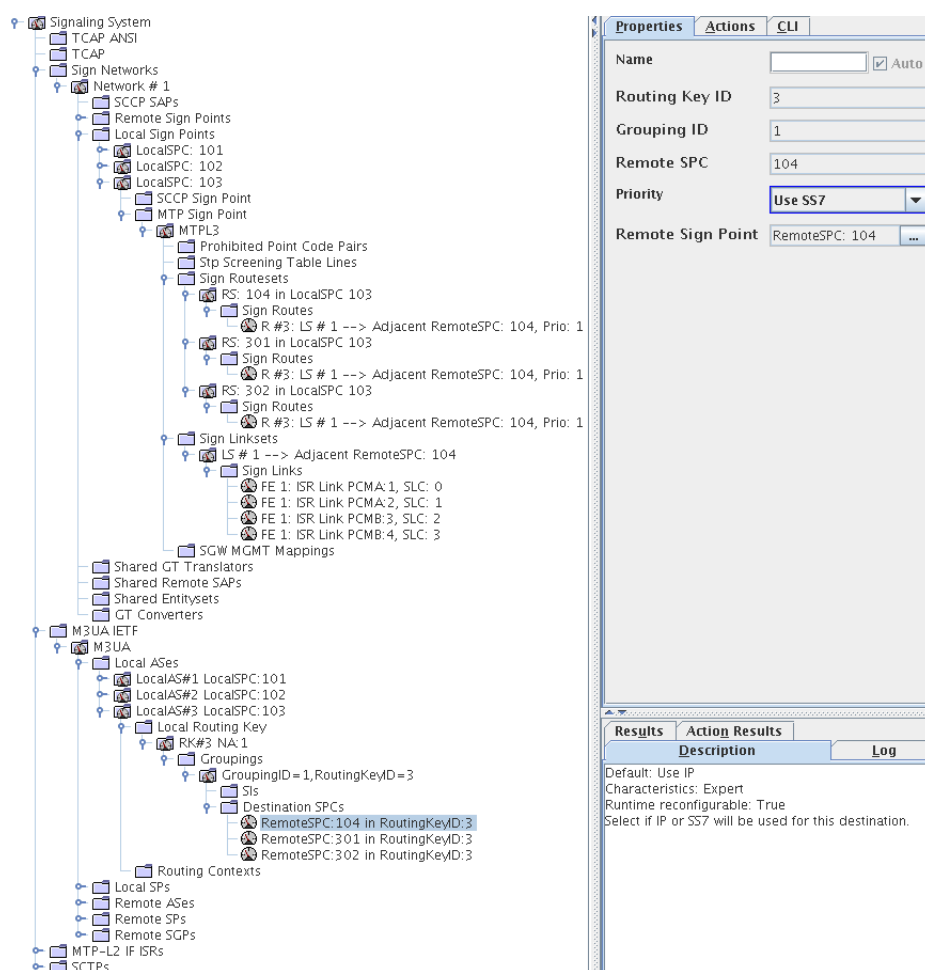

Figure 12 Setting Priority to SS7 instead of IP.
ASPs with both IP and SS7 is the first step when migrating between SS7 and IP in runtime. In later steps either SS7 or IP is removed. In the following example the ASP at PC 103 will use SS7 as first priority to the STP at PC 104. The result of the below steps in Signaling Manager GUI is shown in Figure 12.
Note: To remove **LS # 1...** select it and press either Remove popup menu option or **Delete** key. The location of **LS # 1...** in the element tree is described in the above paragraphs. Configuration with added elements is shown in Figure 12.
Note: To remove the instance **RS:...** of **Sign Routsets** select it and press either Remove popup option or **Delete** key. The location of **Sign Routsets** in the element tree is described in the above paragraphs. Configuration with added elements is shown in Figure 12.
3. Under the group-element **Destination SPCs** select the **RemoteSPC:104 in RoutingKeyID: 3** and set the Priority property to **Use SS7**, as shown in Figure 12.